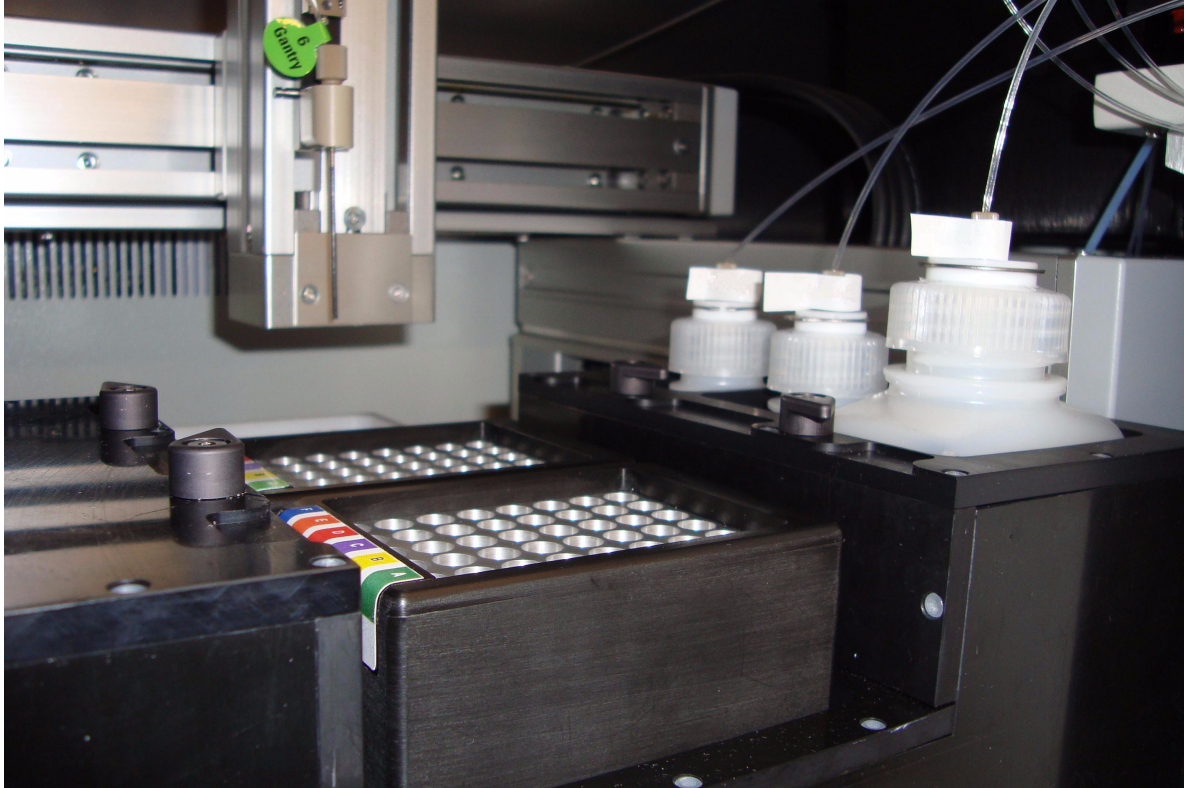

Figure 33 The Reagent Strip Block.
- Verify that the reagent strip blocks are oriented and seated properly in the chiller block. The block must engage the orientation key to fit properly. The orientation key (cut corner) is in the upper-left position when the block is placed on the instrument (see Figure 33 on page 35).